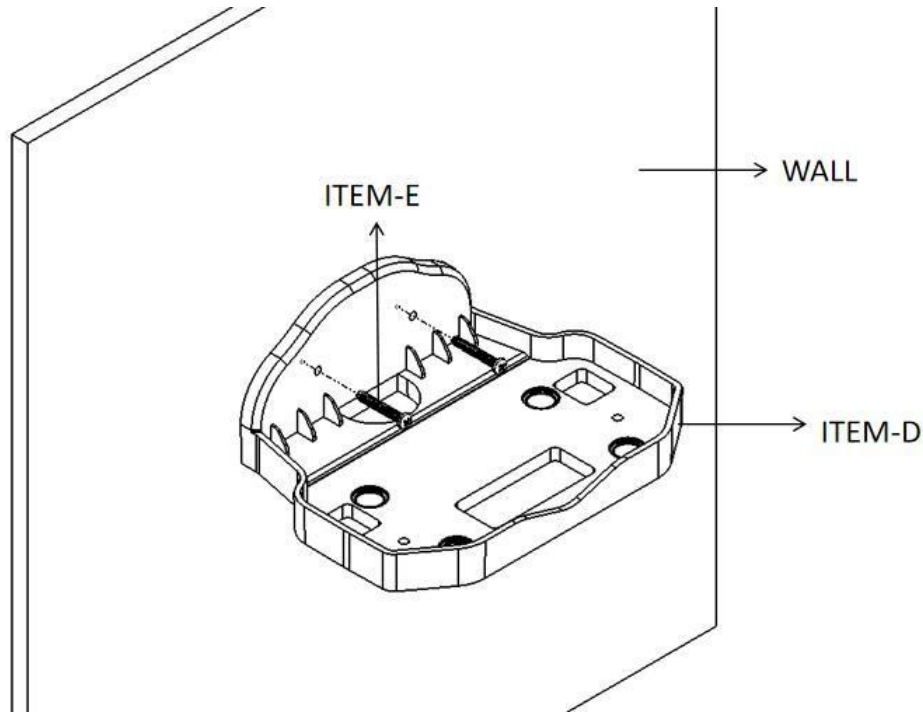

Figure 17 DeltaLINK Mounting Bracket Installation
- c) Once the location on the wall has been verified, hold the bracket on the wall and mark the 2 mounting hole locations on the wall. See Figure 17. Based on the material of the wall (drywall/wood/plaster/etc.), install the bracket to the wall with the appropriate 2 fasteners.